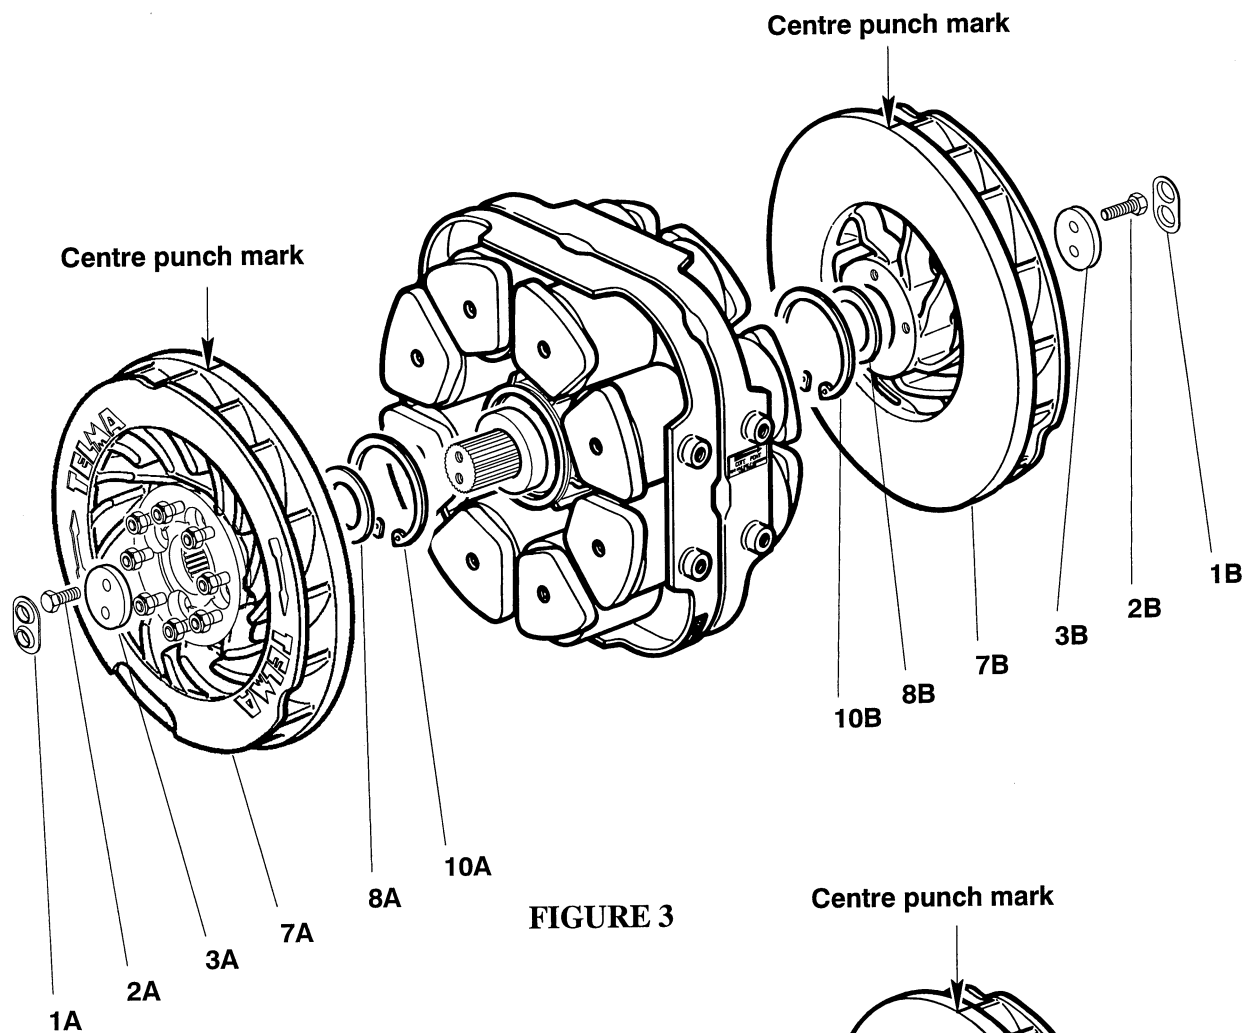

FIGURE 3
- The "**gearbox side**" of the retarder will be referred to as side "**A**" and the "**drive axle side**" will be referred to as side "**B**" (see figures 3 and 4).
- **Figure 3 : standard version**